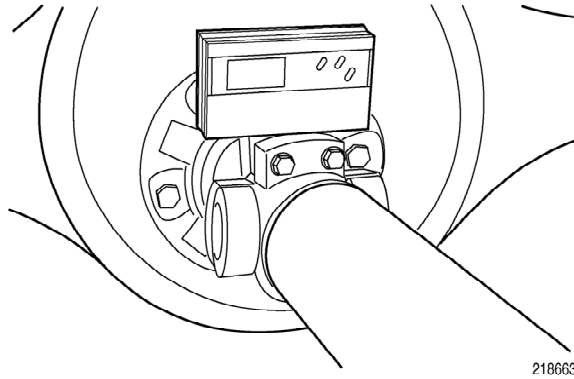

Figure K-11. Determining Yoke Phasing
3. To measure the angle, place an inclinometer on the prepared, flat surface of one universal joint, and read the angle (Figure K-11). Then, place the inclinometer on the prepared, flat surface of the corresponding universal joint and compare the two readings.